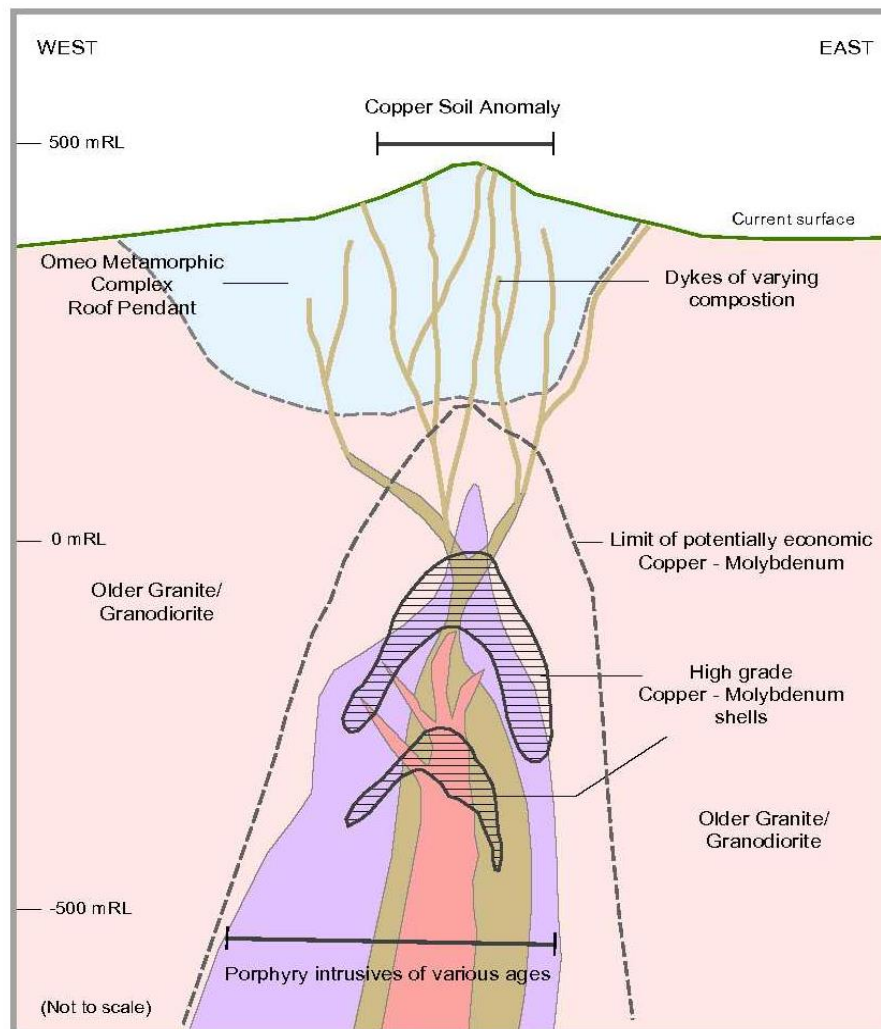

Figure 5. Schematic cross section of the Copper Quarry prospect (not to scale).
**TARGETS & PLANS:** Dart Mining believes Copper Quarry is the surface expression of a mineralised porphyry and has an exploration model to guide testing this system at depth (Figure 5). Two drill holes are planned to test for alteration changes with depth and to allow for downhole geophysics or deeper drilling if successful.